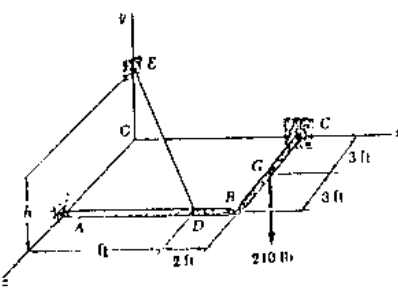

Figure 1
(1) The 8-ft rod AB and the 6-ft rod BC are hinged at B and supported by the cable DE and by ball-and-socket joints at A and C. Knowing that $h = 3$ ft, determine the tension in the cable for the loading shown in Figure 1. (15%)